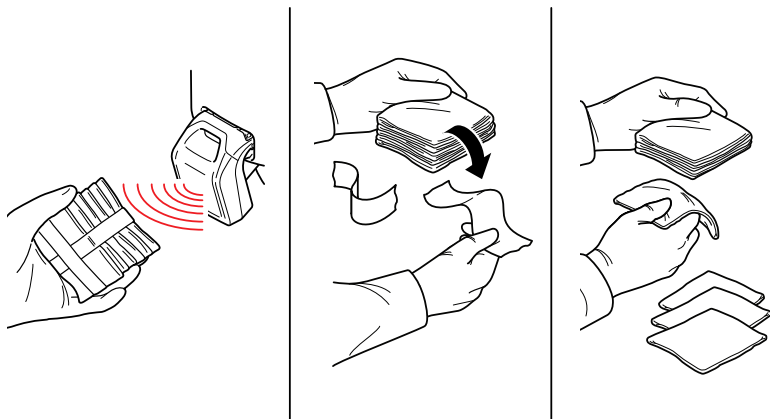

Figure 14 – Present Pack – Break Bands– Count Sponges
7. Break and discard the sponge pack bands (Figure 14).
8. Perform an audible manual count for each sponge (Figure 14).